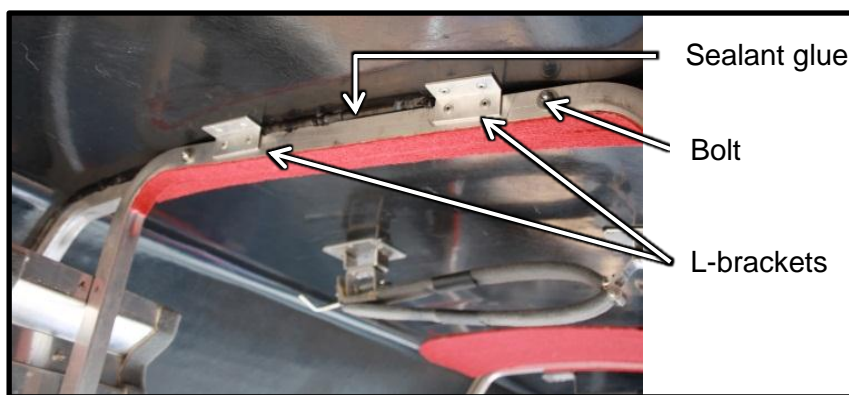

Figure 5
3.2.3. Fit the aluminium L- brackets as illustrated in Figure 5. Drill and rivet as illustrated. Take care not to drill through the outer skin of the canopy.